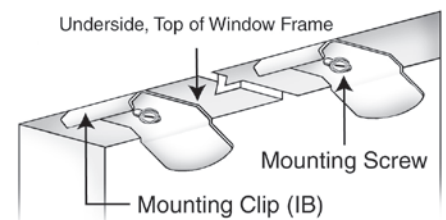

Figure 1
1. Install mounting clips to the underside, top of the window frame (Fig. 1).
2. Secure to the underside with one mounting screw through top of each clip (Fig. 1).